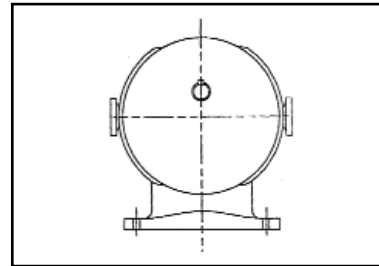

Fig. 2
- Horizontal pipe orientation, high drive shaft position - Fig. 2